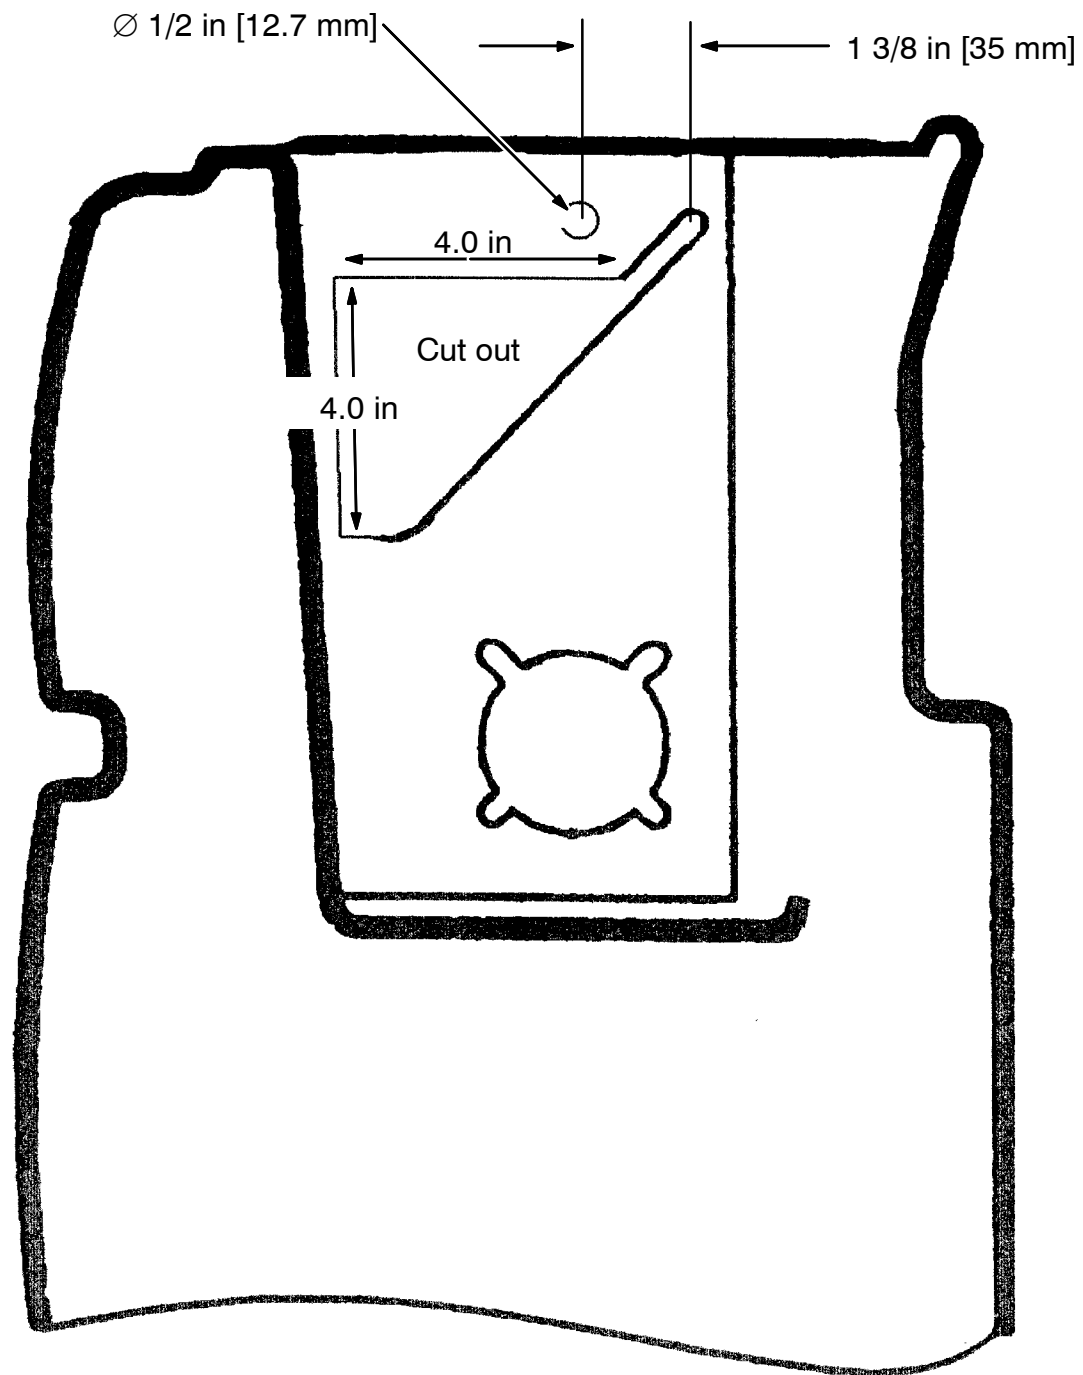

FIG. 2 - New Hole Locations
7. Cut out the inside-forward panel as shown in FIG. 2. (Refer to FIG. 2)
8. Mark and drill the 1/2 hole location on this panel as shown in FIG. 2. (Refer to FIG. 2)